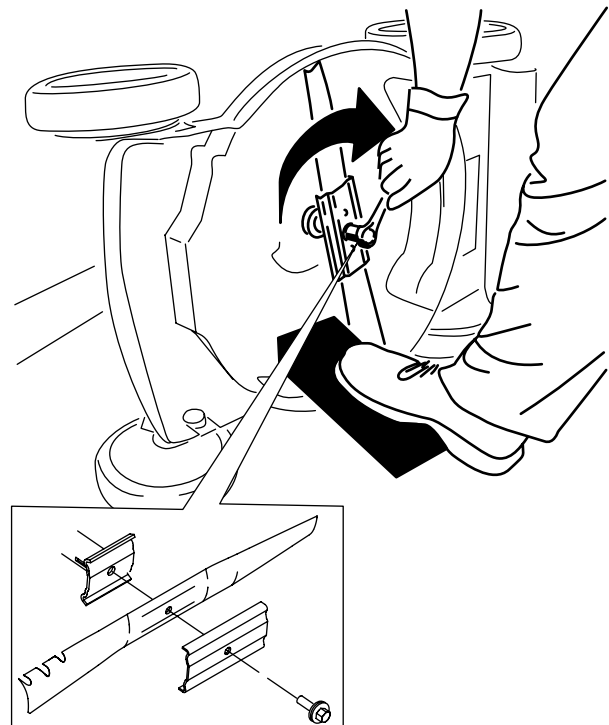

Figure 21
4. Install the new blade and the blade bolt (Figure 21).